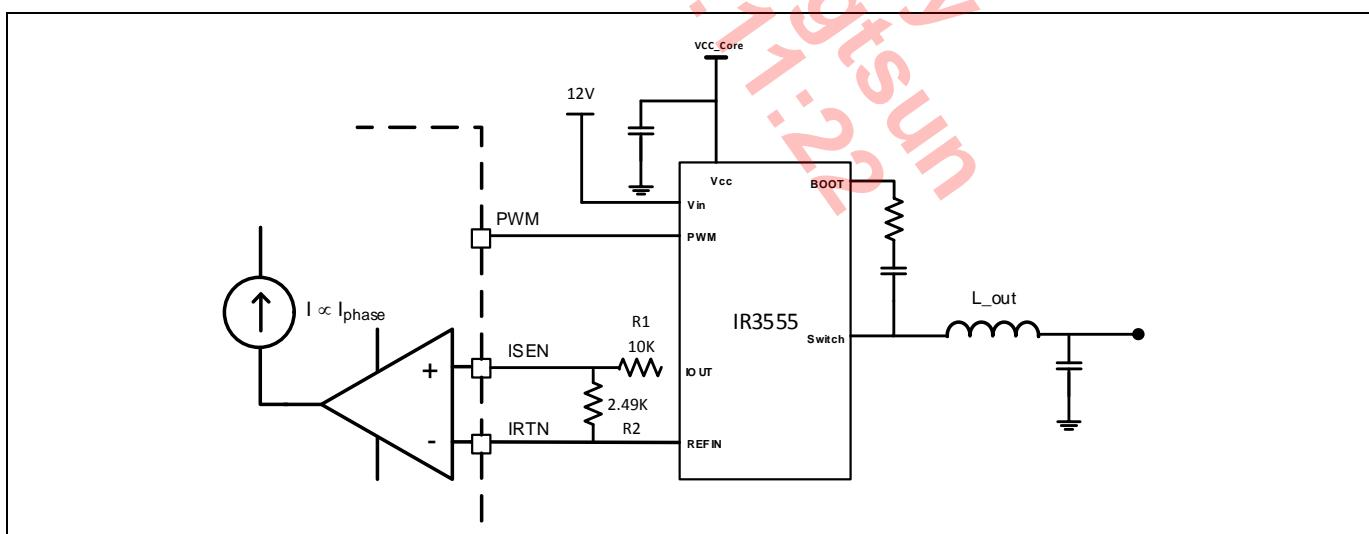

Figure 28 Rds(on) Current Sense
Additionally, the current sense inputs to the IR35217 can also be directly fed the current information from a PowIRstage having RDS (ON) sensing capability, thereby eliminating the need for the R-C sense components, RSEN and CSEN as shown in Figure 28.
R35217 reads the current value from individual power stages as shown in Figure 28. The power stage measures the output current by sensing the voltage drop across lower side MOSFET. The current sensed by the power stage is thermally compensated hence there is no need of an external thermistor for temperature compensation. Thus, Rds (on) current sense reduces the component count required for loadline measurement as shown in Figure 32.
Refer Figure 28.